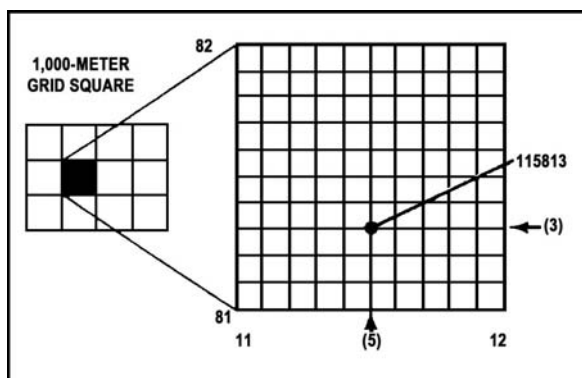

Figure 071-329-1002-2. Grid square 1181 divided
b. Suppose you are halfway between grid line 11 and grid line 12. Then the next number is 5 and the first half of your address is 115. Now suppose you are also 3/10 of the way between grid line 81 and grid line 82. Then the second half of your address is 813. Your address would be 115813 (figure 071-329-1002-2). (If you are exactly on line 81, the second half would be 810.)